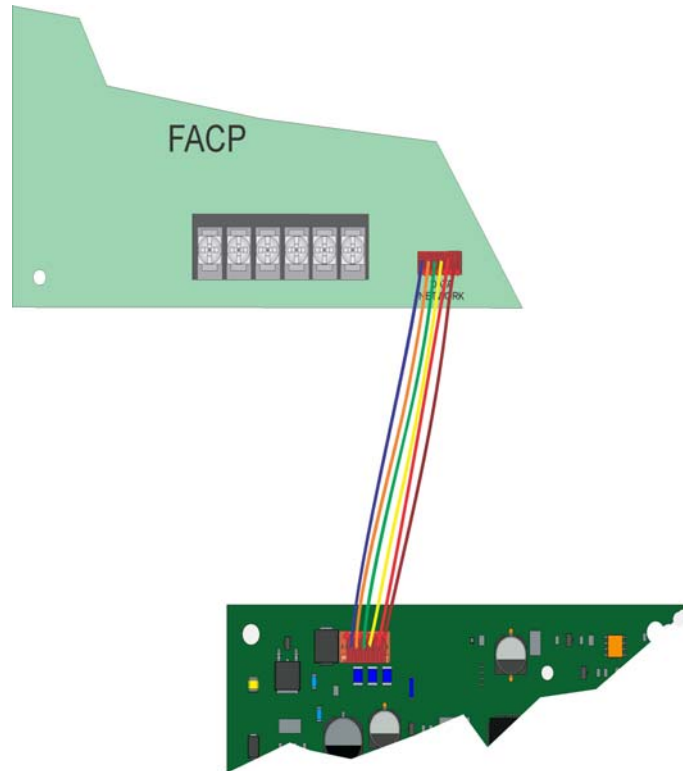

Figure 5.6 Panel to SK-NIC connection
- Use the 6-pin cable included with SK-NIC to connect the 6808 to the SK-NIC. Connect the SK-NIC to the pin connector on the control panel labeled Data Network. See Figure 5.6.